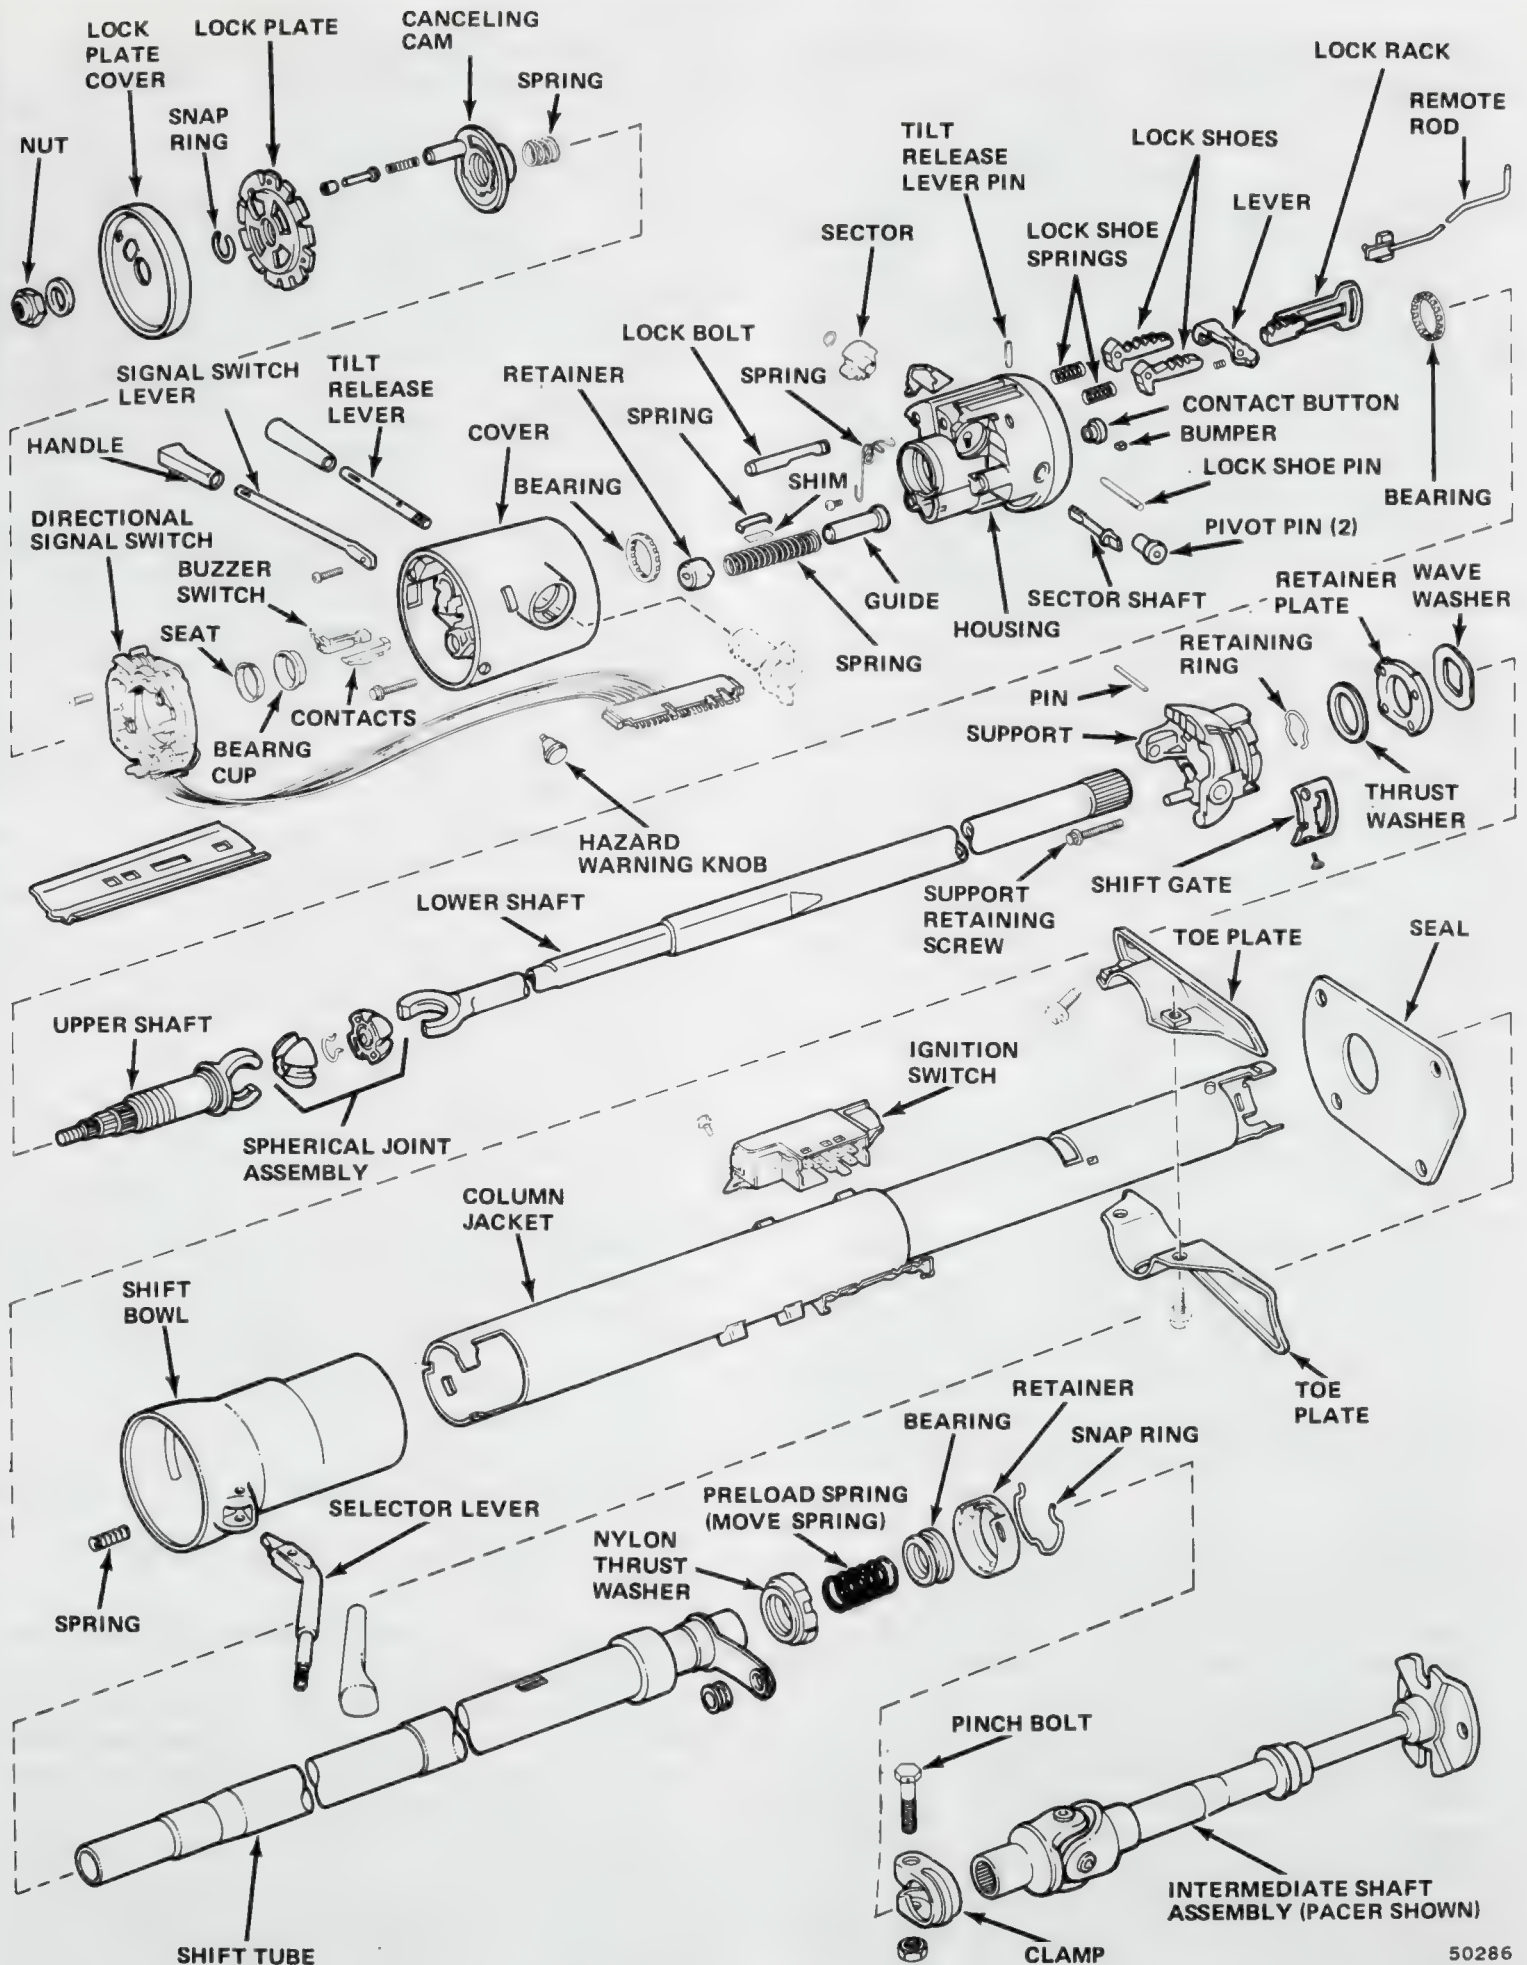

Fig. 2H-28 Tilt Steering Column
(1) Apply chassis grease to all friction and bearing surfaces.
(2) Position shift bowl on column.
(3) Install wave washer and retainer plate in column.
(4) Install shift tube in lower end of column jacket and align tube spline with shift bowl keyway.
(5) Insert Installer Tools J-23073-2 and -4 into shift tube (fig. 2H-29).
(6) Tighten spring tension nut of tool J-23073-4 to snug fit.
(7) Position Receiver Tool J-23073-3 over puller stud of tool J-23073-4 and install puller nut on stud (fig. 2H-30).
(8) Tighten puller nut to draw shift tube into bowl (fig. 2H-30). Remove shift tube installer tools when tube installation is completed.